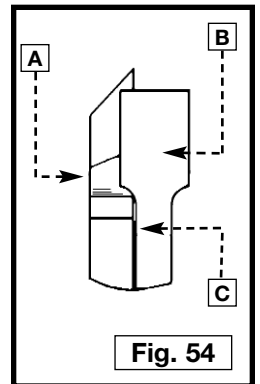

Fig. 54
The saw and cutter overlap is shown in Fig. 54, (A) being the outside saw, (B) an inside cutter, and (C) a paper washer or washers which can be used as needed to control the exact width of groove. A 1/4" groove is cut by using the two outside saws. The teeth of the saws should be positioned so that the raker on one saw is beside the cutting teeth on the other saw.